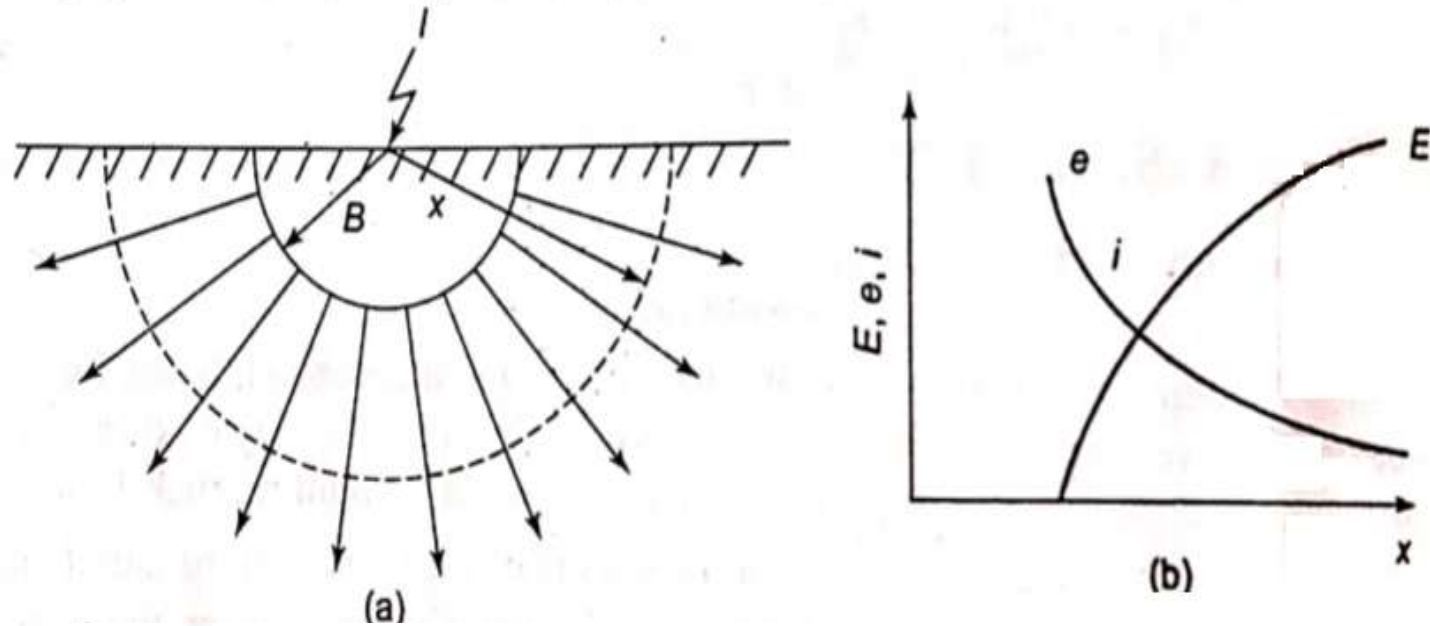

Fig. 1 (a) Hemispherical electrode (b) Variation of e , i , E , with x
- **MOISTURE CONTENT:** Electrical conduction in soil is electrolytic. Soil resistivity decreases with increase in moisture content as shown in Fig 1.
Fig. 1 (a) shows a buried hemisphere. The total resistance can be divided into three parts (i) resistance of conductor (ii) contact resistance between the surface of electrode and main body of earth (iii) resistance of body of earth surrounding the electrode.
The variation of e , i and E with distance x is shown in Fig. 1 (b). The voltage between the hemispherical electrode and a point at infinity (i.e., $x = \infty$) is